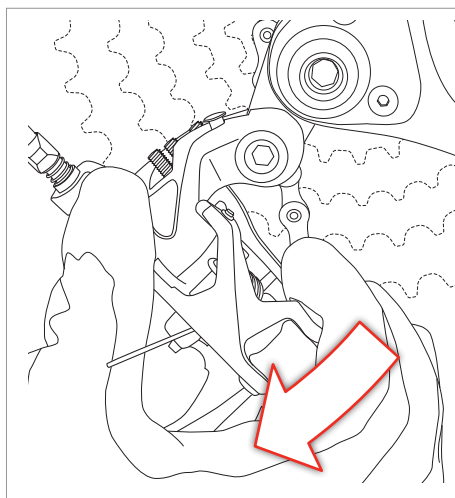
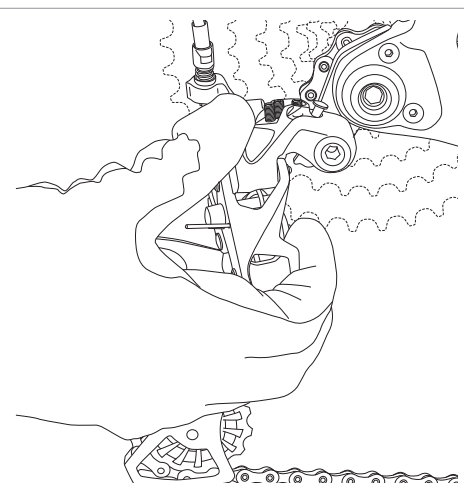

Fig.1
Fig.2
- Rotate the rear derailleur clockwise (Fig. 1), until it locks into rearward position (Fig. 2). The jockey cage lock button will engage automatically.
- To remove the rollers, unscrew the screws (Fig. 1) with a 3 mm Allen screw.
The two rollers are different: on the upper section, fit the roller (Fig. 1) marked "UPPER" (with side play); in the lower section, fit the roller (Fig. 1) marked "LOWER".